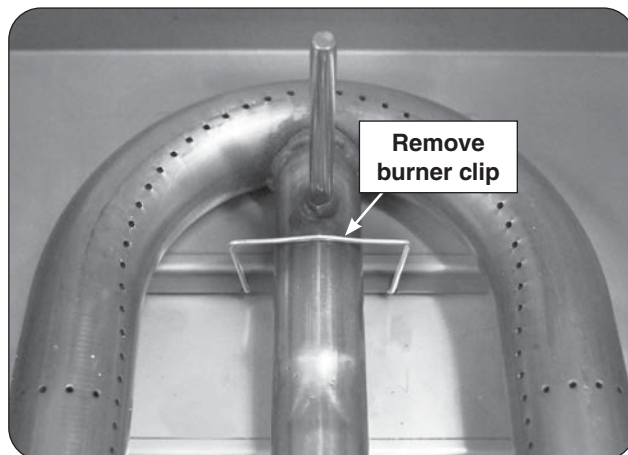

Fig. 36-2 Main burner removal
2. Locate the burner clip (located over the rear center tube of the burner) and slightly pinch and remove the clip from the burner support. See Fig. 36-2.